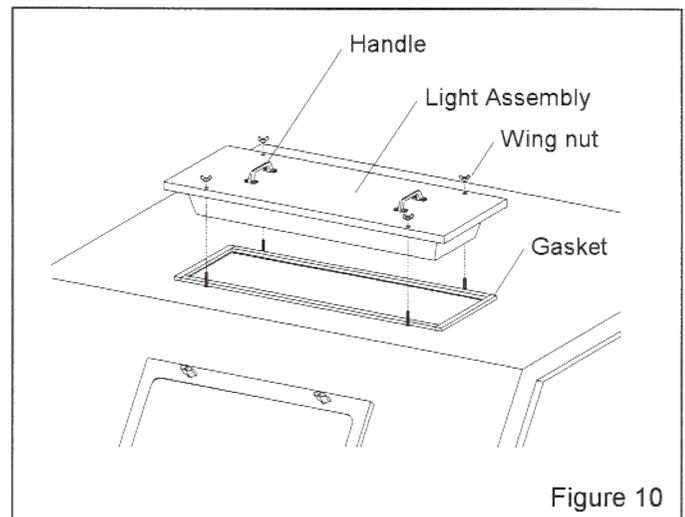

Figure 10
**7.6.2.1** Remove the four holding wing nuts, and use the handles to lift the fixture off the cabinet, as shown in Figure 10.
strip gasket to the top edge of the light opening, as shown in Figure 10. Press the gasket tightly to bond. Repeat the process for each side, compressing the ends to seal.